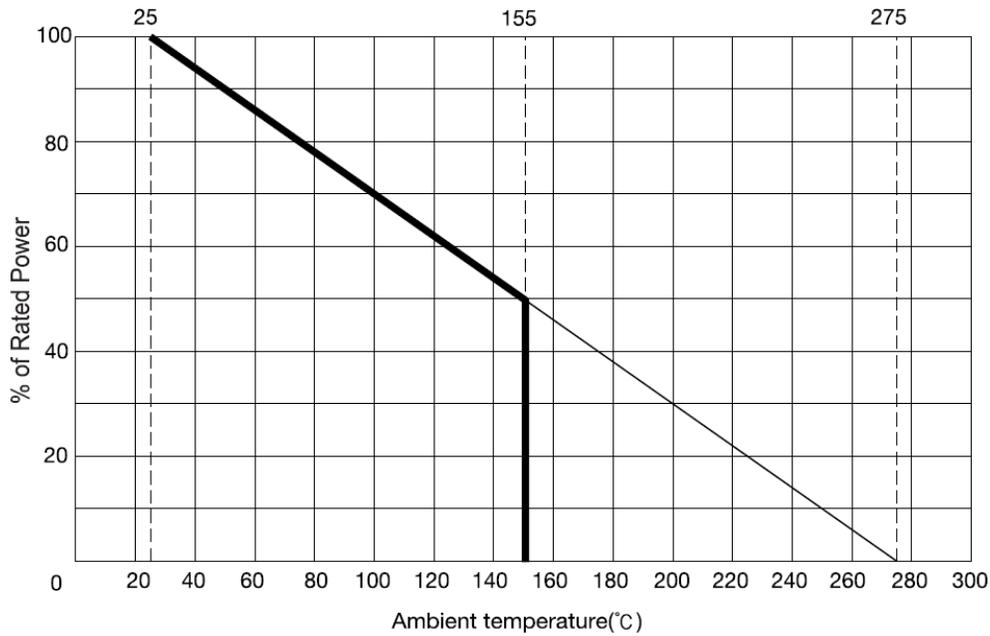

Figure 18. De-rating Curve Example of Shunt Resistor (from RARA Elec.)
- Power Factor (PF): 0.8
- De-rating Ratio of Shunt Resistor at $T_{SHUNT} = 100^\circ\text{C}$: 70% (refer to Figure 18)